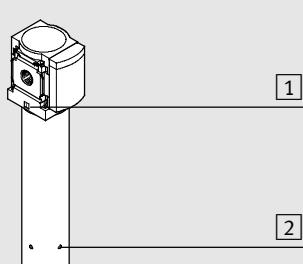

Fig. 1 / 图 1
- Note the direction of flow from 1 to 2. The figures [1] on the product housing serve as an orientation (see Fig. 1). If the direction of flow is not correct, the diaphragm drier will not function properly.
- 请注意从 1 到 2 的气流方向。产品外壳上的数字 1 用于定向（见图 1）。如果气流方向相反，将会导致隔膜式空气干燥器功能失效。